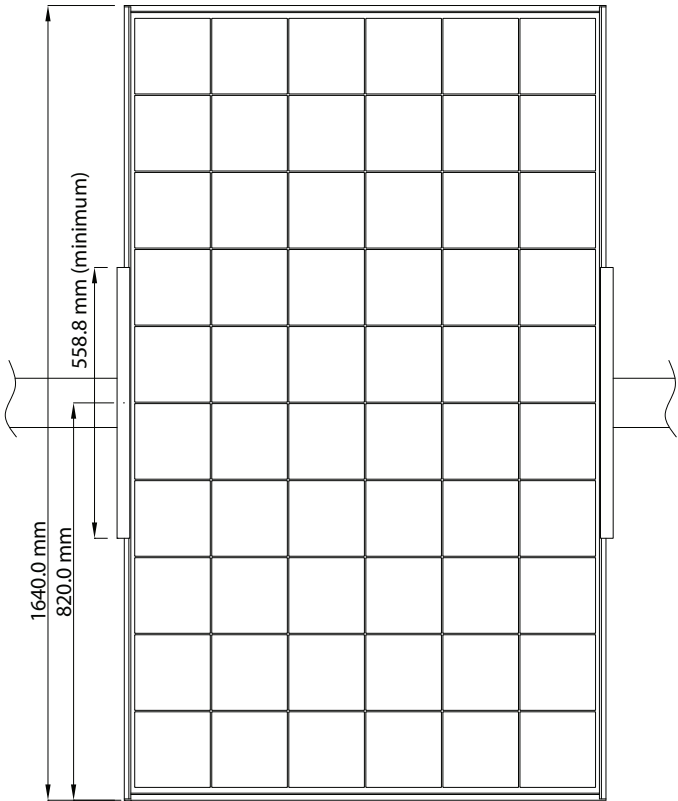

Figure 7
**Mounting using Clamps on Long Edge of Module (Figure 7) – 2 Clamp Method**
The modules may be mounted using clamps designed for solar modules as shown in Figure 7. Note the clamp position is important. The 22" length clamp should be positioned so that it supports the center of each long frame of the solar module. The clamp should be affixed to the modules and mounting structure with 4 bolts on each long frame. For the 2 clamp mount method, the minimum clamp length dimension is 22". The modules should be inserted fully into the module clamps so that the outside edge of the module frame is flush with the inside surface of the clamp. The clamp is designed to overhang the top module edge by 12mm. This mounting method is designed to allow module loading of 1,440 Pa.